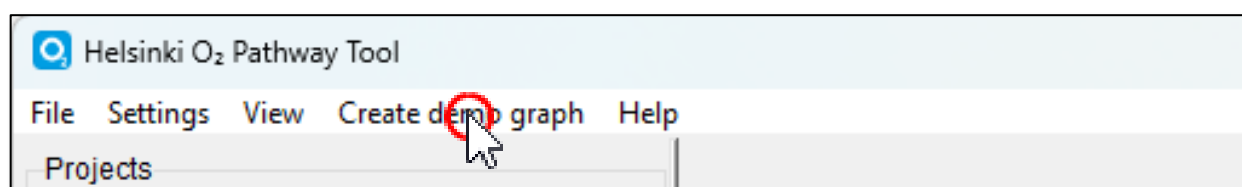

Figure 33
2. Click the “Create demo graph” option from the main menu bar (Figure 33).